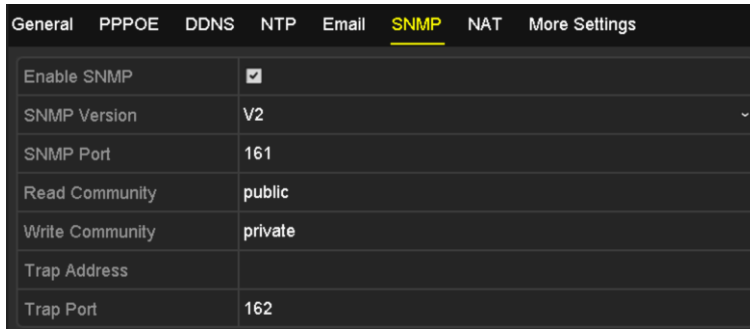

Figure 11. 13 SNMP Settings Interface
2. Select the **SNMP** tab to enter the SNMP Settings interface, as shown in Figure 11. 13.